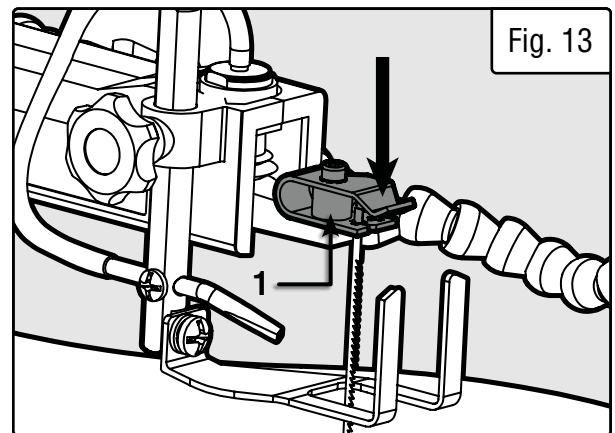

Fig. 13
3. Push down on the upper blade holder (Fig. 13 - 1) to remove the blade from the holder. Remove the blade from the lower blade holder Fig. 14 - 1).
2. While pushing down on the upper blade holder (Fig. 13 - 1), insert the blade into the slot of the holder.